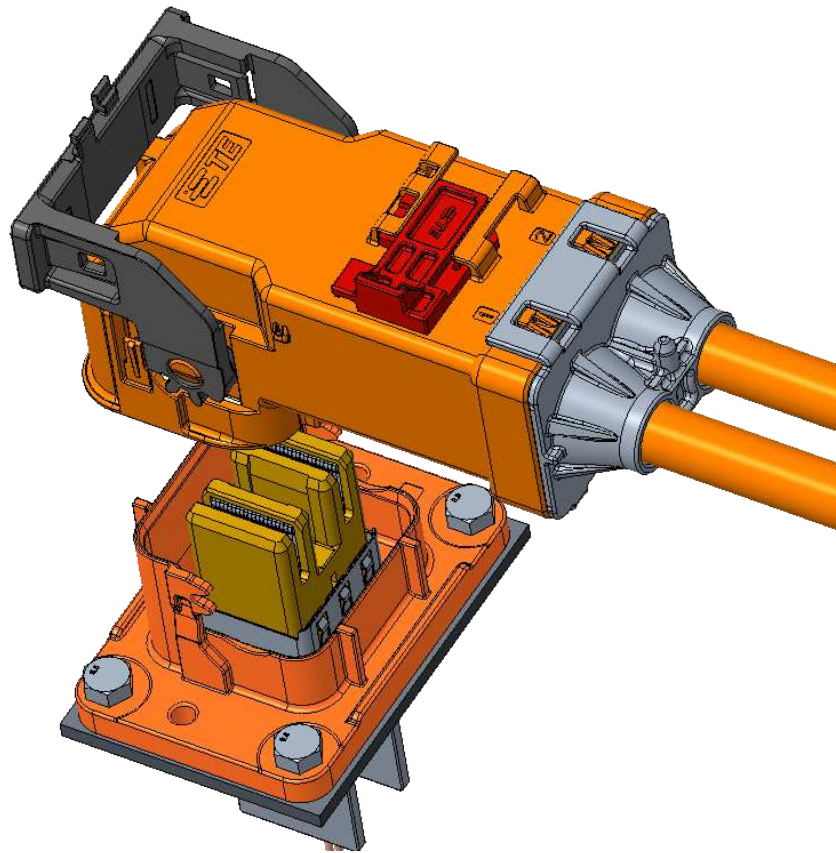

Figure 13: Plug and Header Alignment
2. Align the plug and header connectors as shown in Figure 13.